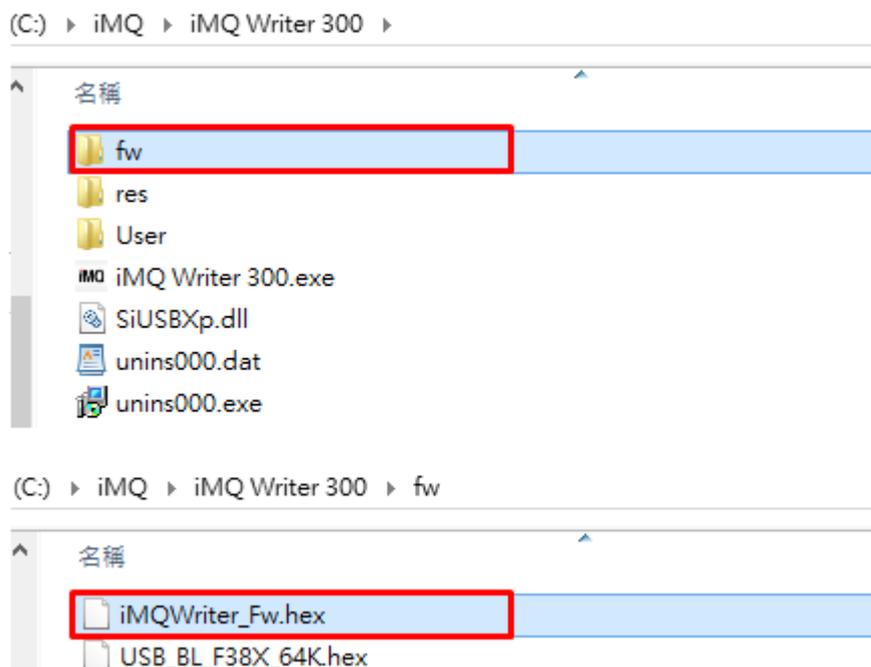

Figure 9-5
- Step 2 : Click "Browse" key to update the Flash Writer Firmware. This file is in "fw" document, the file name is "iMOWriter_Fw.hex"as figure 9-5.